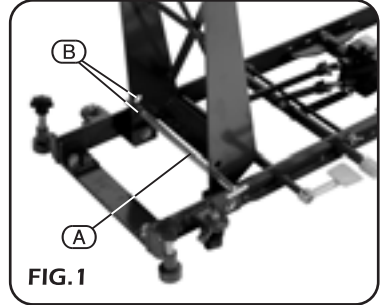

FIG. 1
**5.1 LEVELLING (Figs.1&2):**
- ii. When the platform is raised to the maximum position, install the safety device (A) in one of two available holes (B). Make certain that it is fully inserted up to the roll pin.